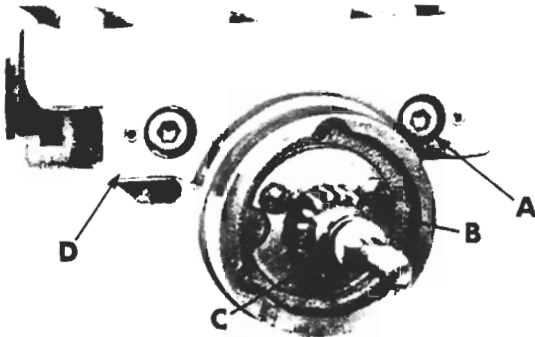

Figure 46
3. Remove two screws (A, fig. 46) from dial housing (D).
4. Remove washer (C), gear (B) and key from lead screw.